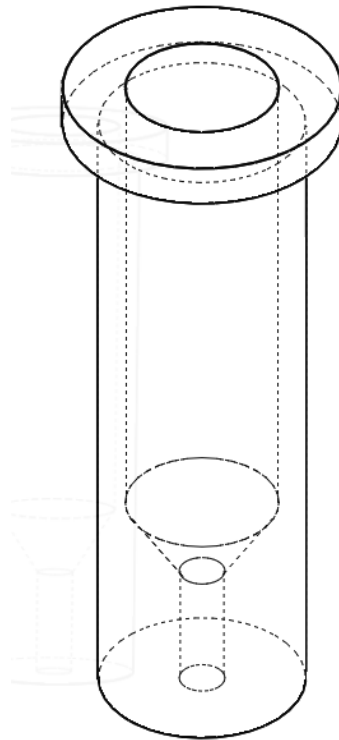

Figure 1: 3D printed housing unit structure with internal structure illustrated
1. Print the cloth housing unit (HU) on a 3D printer with at least a 10% infill and 1.5 mm wall thickness. Place the unit on the printer bed with the flat face of the cylinder on the bed and the lipped end on top. Add supports around the lip and print with a brim to reduce the chance of the print warping off the bed. See Figure 1 for how this should look on a Prusa Slicer software.